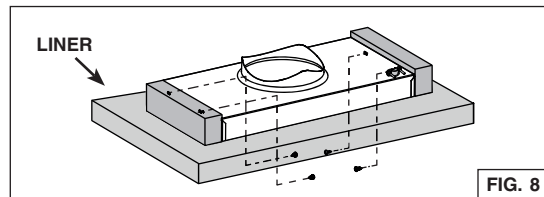

FIG. 8
6. For installation in a cabinet without bottom, insert the power module in the liner. Install 2 wood blocks having 2½" minimum height x 10¼" long (not included), on top of the liner and on left and right side of the power module. Secure the power module to the wood blocks using (4) wood screws included in parts bag (2 screws per side) (Fig. 8).